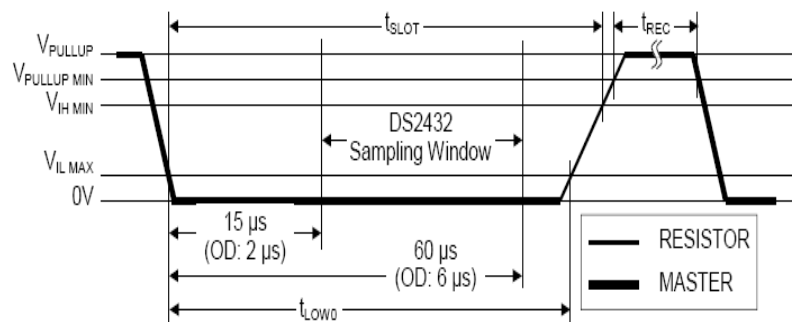

Fig4-101 - Write-zero Time Slot
- A. Write 0: If the sampling is low, 0 is generated as in fig4-101: